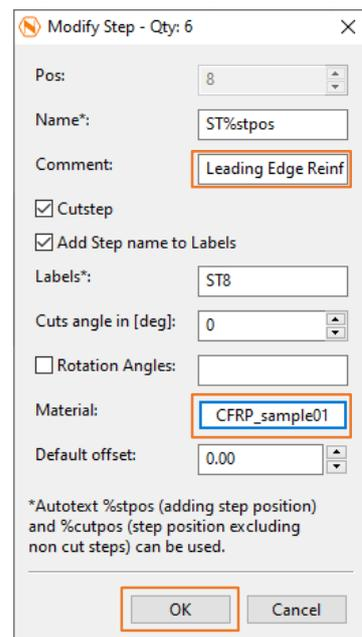

Figure 236
21. Enter “Leading Edge Reinf” to highlight the purpose of this steps and select our CFRP_sample01 material Figure 236.